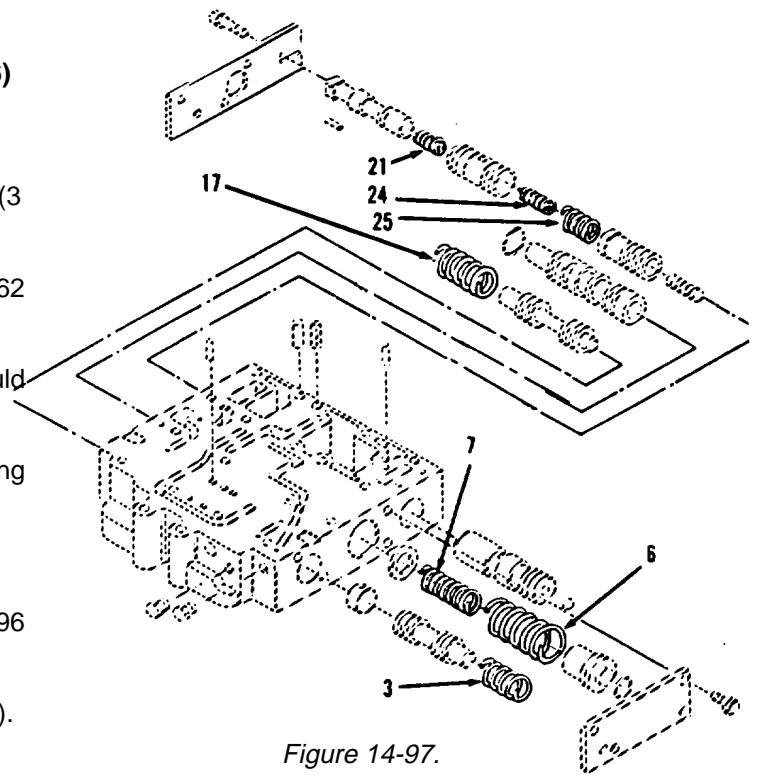

Figure 14-97.
1. Apply compression load of 9.15 to 10.75 lb. to springs (3 and 17, Figure 14-97).
4. Apply compression load of 22.75 to 24.65 lb. to spring (6).
5. Measure spring (6). Length should be 1.426 inches.
6. Measure spring (6) free length. Length should be 2.796 inches.
7. Apply compression load of 11.9 to 12.9 lb. to Spring (7).
8. Measure spring (7). Length should be 2.28 inches.
9. Measure spring (7) free length. Length should be 4.5 inches.
10. Apply compression load of 3.68 to 4.32 lb. to spring (21).
11. Measure spring (21). Length should be 0.25 inch.